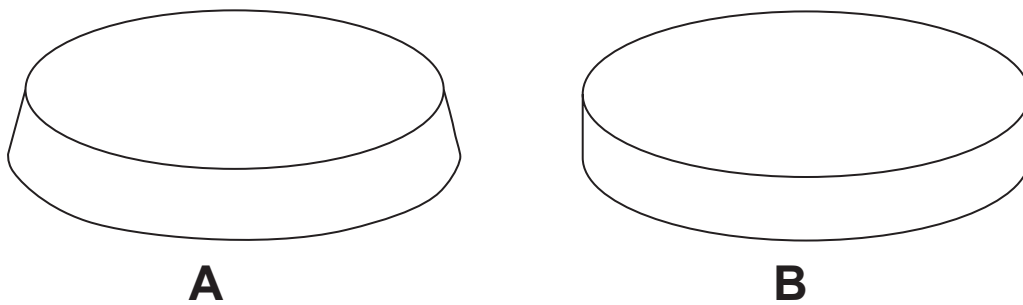

Fig. 5
- 7 **Fig. 5 A and B** show sketches of two possible moulds to be used in a vacuum forming process.